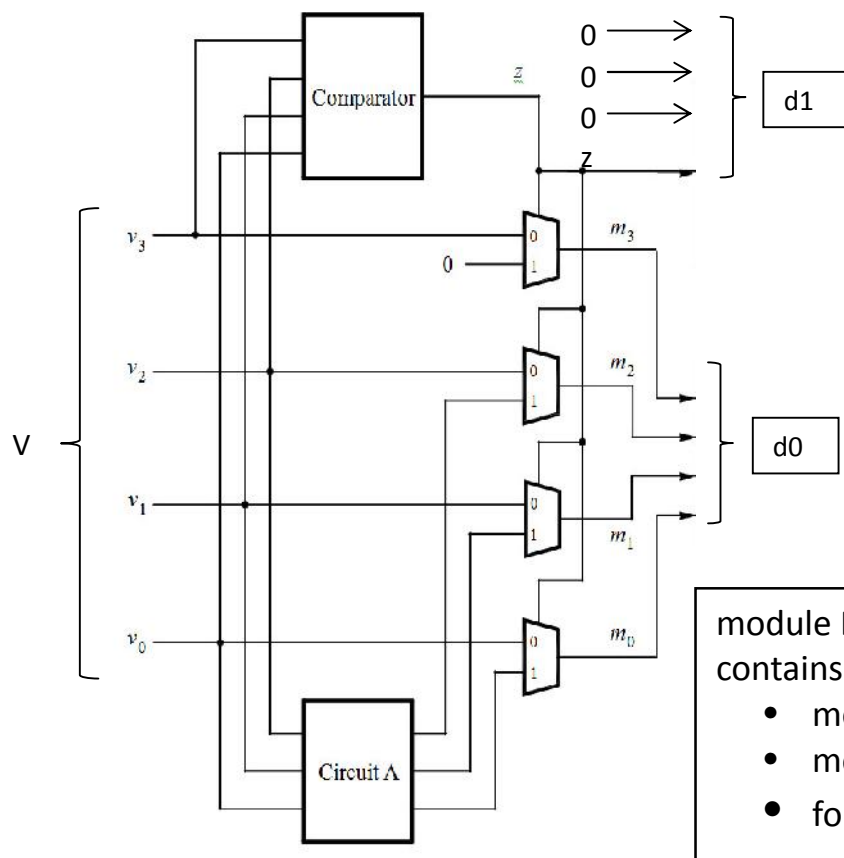

Figure 1a. Partial design of the binary-to-decimal conversion circuit.
1. Make a Quartus II project for this part. Structure your circuit as shown in Figures 1a and 1b.